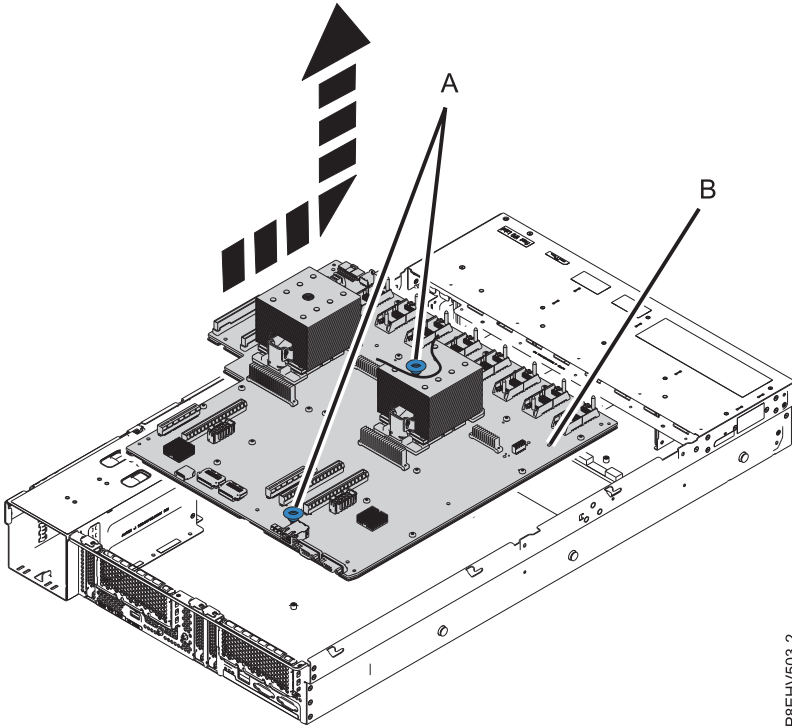

Figure 65. Lifting out the backplane
12. Using the blue lift points, slide the system backplane (E) towards the fans, then lift to remove it. See Figure 65 on page 66.